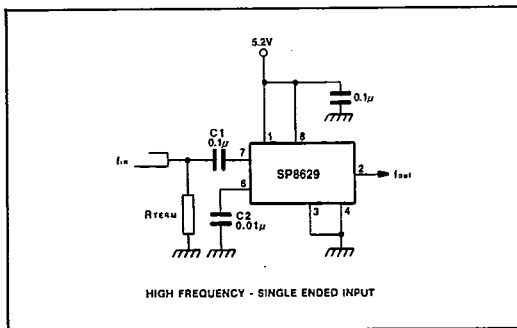

Fig.6 High frequency, single-ended input
2. The signal source is usually capacitively coupled to the input as shown in Fig. 6. In the single-ended mode a capacitor of $0.01\mu F$ (C2) should be connected between the unused input and the ground plane to provide a good high frequency bypass. The capacitor should be increased at lower frequencies. If the input is likely to be interrupted, it may be desirable to connect a 100k resistor between an input and ground.